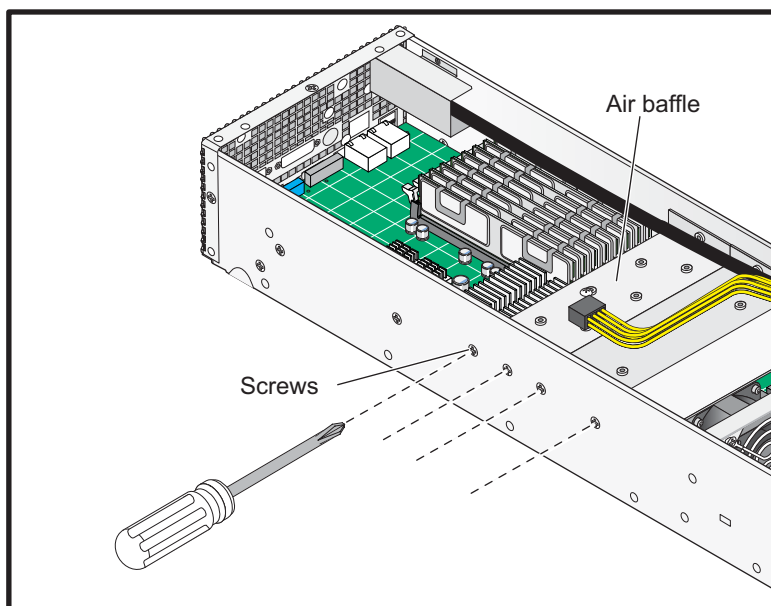

Figure 3-18 Air Baffles
2. Remove the air baffles (refer to Figure 3-18).